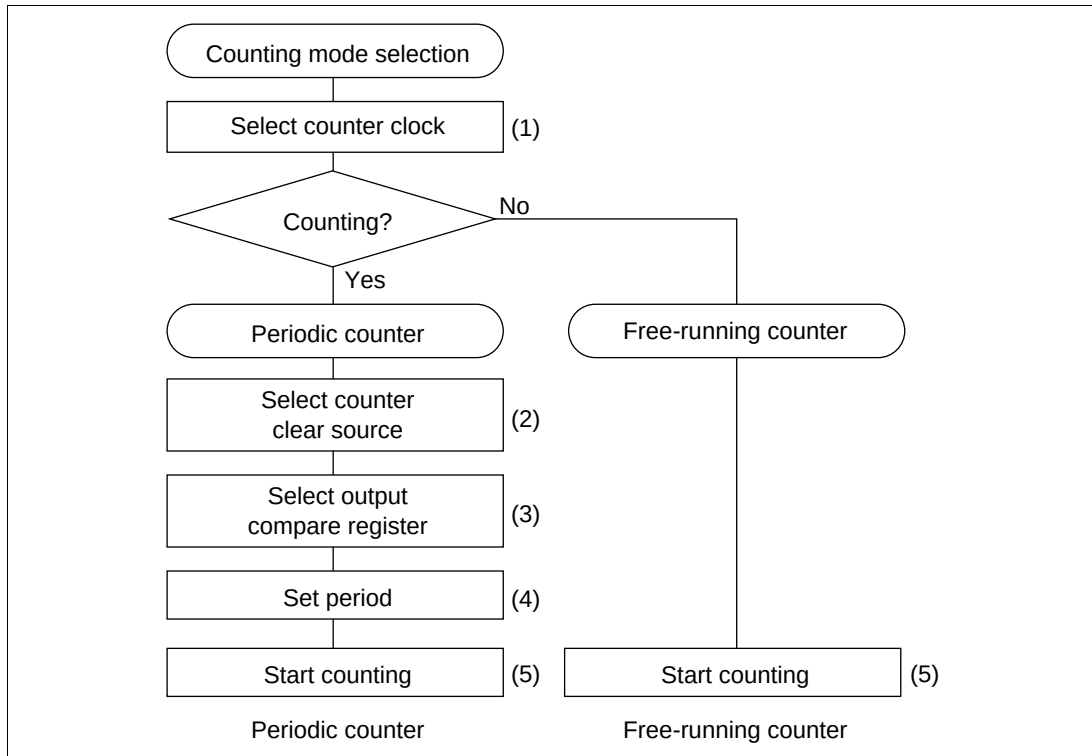

**Figure 10.14 Procedure for Selecting the Counting Mode**
- Procedure for selecting counting mode (figure 10.14):